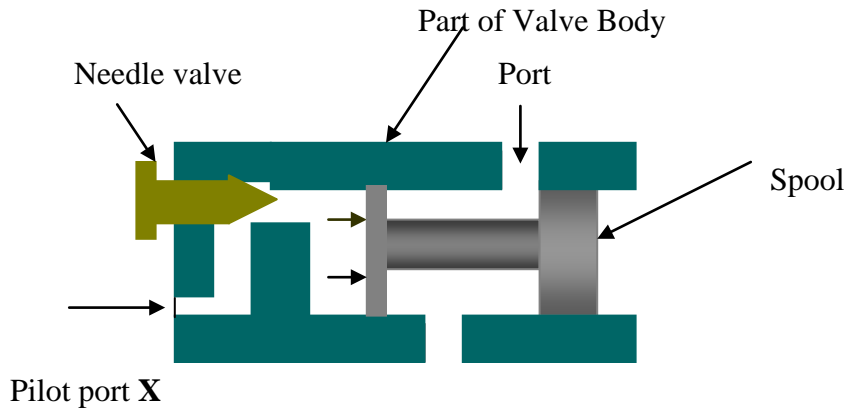

Fig 4.19a. Pilot actuated DCV
4. Hydraulic actuation: This type actuation is usually known as pilot- actuated valve. The hydraulic pressure may directly used on the end face of the spool . The pilot ports are located on the valve ends. Fig 4.19a. shows a directional valve where the rate of shifting the spool from one side to another can be controlled by a needle valve. Fluid entering the pilot pressure port on the X end flows through the check valve and operates against the piston. This forces the spool to move towards the opposite position. Fluid in the Y end (right end ,not shown in the figure) is passed through the adjustable needle valve and